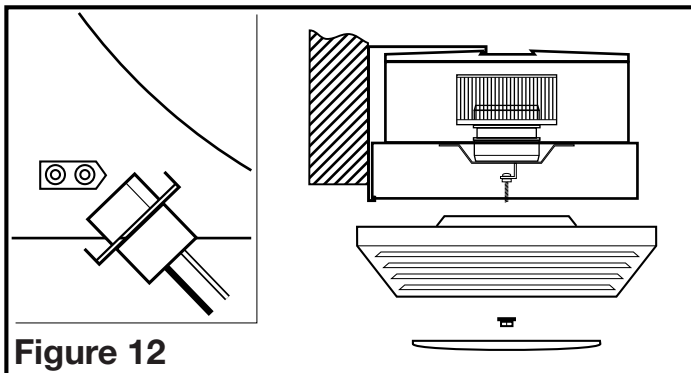

Figure 12
4. After the reflector bolt is secure, raise the grill/reflector up into position and plug the reflector into the appropriate receptacle. Secure the assembly to the reflector bolt using the acorn nut and lock washer. Install the included LED lamp into the lamp holder by lining up the pins on the lamp base to the socket of the lamp holder and turning the lamp body clockwise until the lamp snaps into place and is firmly seated in the lamp holder (Figure 12).